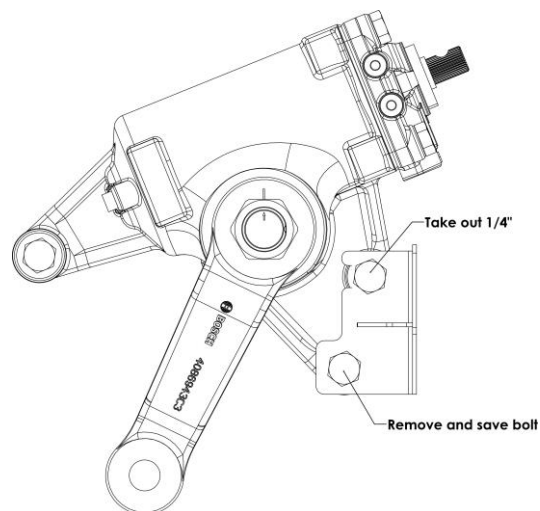

Figure 20: Install Steering Mount
2. Remove the lower bolt attaching the steering gear box to the frame. Retain bolt for reuse. Back the upper bolt out 1/4". See Figure 20.
3. Place Steering Mount in place as shown above and in Figure 20. Reattach OEM M16 bolts to secure Steering Mount to the steering gear box. **Torque to 245 ft-lbs.**